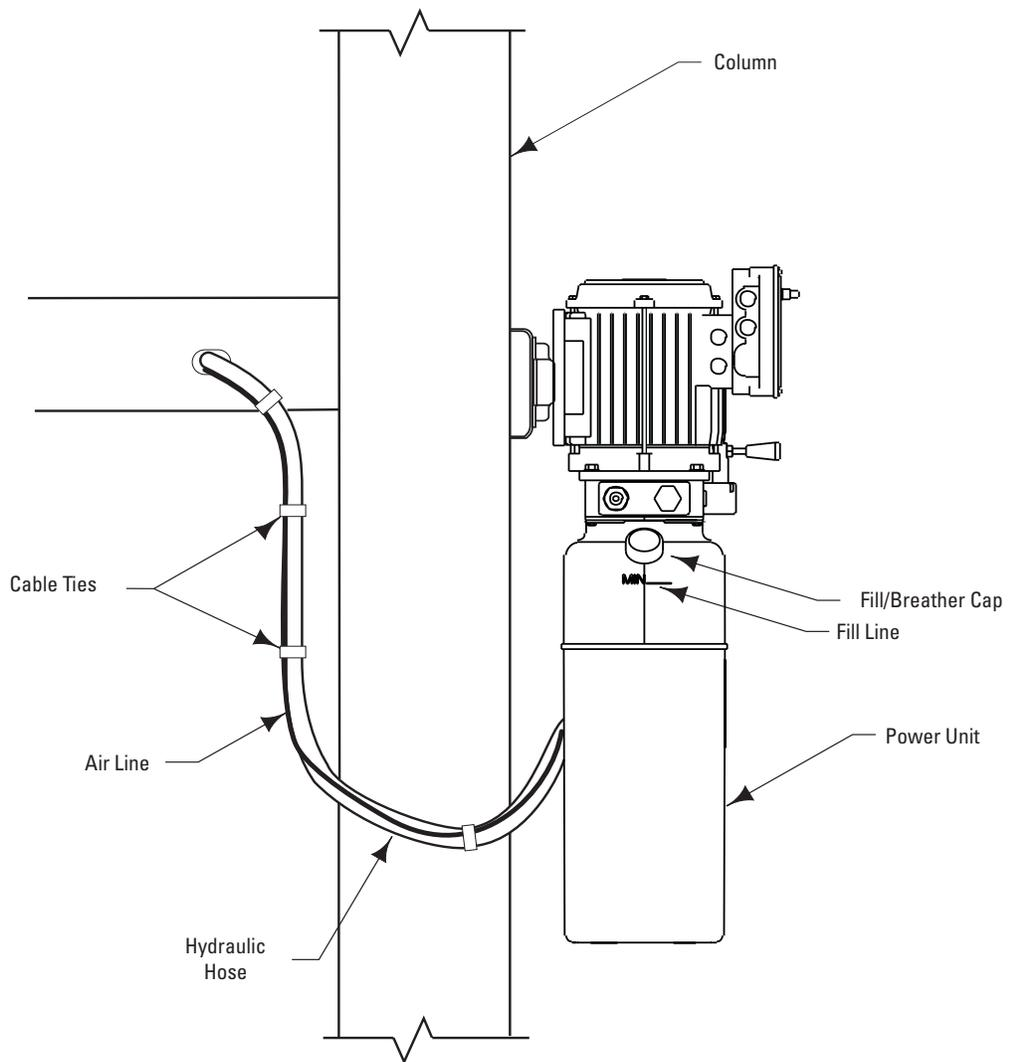

Fig. 19
- B. Mount power unit, with motor up, to column bracket and install lock washers and nuts. Run hydraulic hose from runway through grommet in side of runway to power unit output port, Fig. 19. DO NOT use Teflon tape on hydraulic hose connections. Install and hand tighten elbow to pump until O-ring is seated and elbow should be oriented downward. Tighten locknut to 35-40 ft. lbs. Install enclosed Capacity label on power unit.
System capacity is thirteen (13) quarts. Use Dexron III ATF. Remove fill/breather, Fig. 19. Pour in hydraulic fluid until it reaches the **Fill Line**. Replace fill/breather. Start motor and raise lift to full rise. Lower onto latches.
**Note:** If fill/breather, Fig. 19, is lost or broken, order replacement.
To pressure test, run lift to full rise and run motor for approximately 5 seconds. Stop and check all fittings and hose connections. Tighten or reseal if required. Lower lift. If fill/breather, Fig. 19, is lost or broken, order replacement.